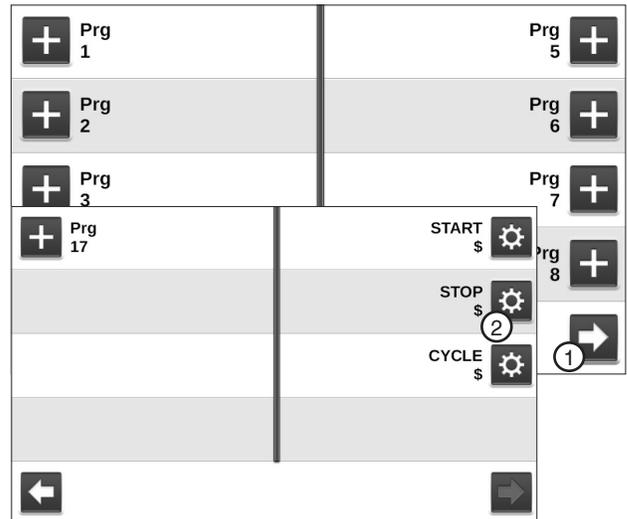

Figure 137-1 Step Programs Screen
1. Push **Menu**, **Programs** and **Step Programs** to view the Step Programs screen. Refer to Figure 137-1.